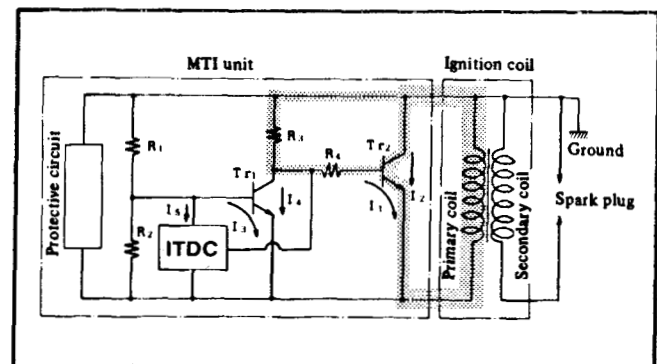

Figure 57
3. Current I_1 flowing through Tr_2 induces a larger current I_2 . Note that current I_1 is very small and that I_2 is much larger. See Figure 57.